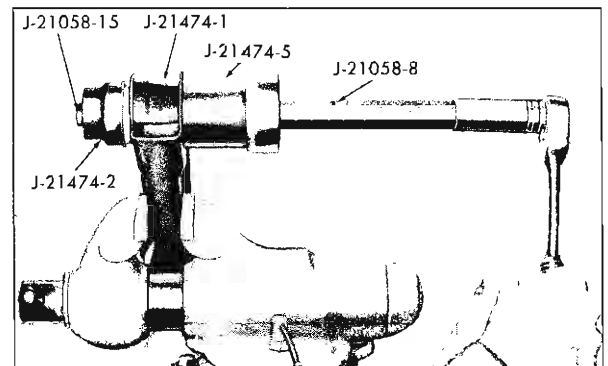

Fig. 28—Control Arm Bushing Installation (Chevelle)
- e. Install Receiver J-21474-5, Thrust Bearing, and Nut J-21058-8 (in that order) onto puller screw. Install Spacer J-21474-1 between sides of control arm and over bushing so that spacer follows contour of bushing. Refer to Figure 28 for installed view of tools.